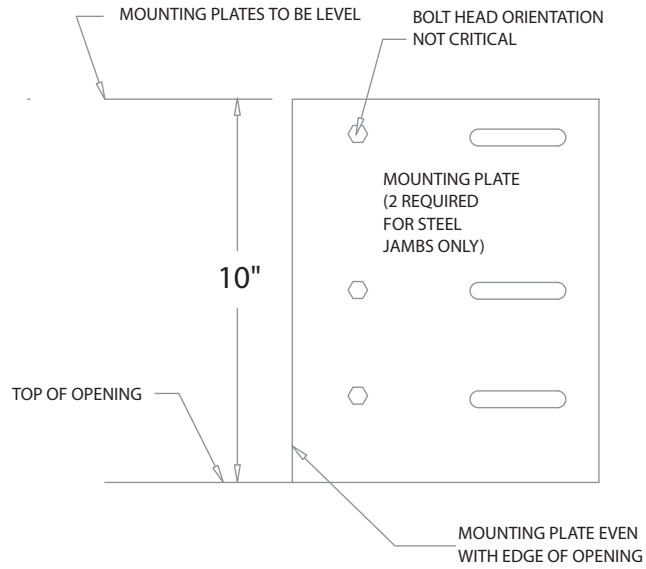

FIGURE 2
- B. Top of mounting plates should be located 10" above top of opening and be level with each other. Side of mounting plates should be even with edge of opening. If opening width is off, adjust locations accordingly. **See figure 2.**